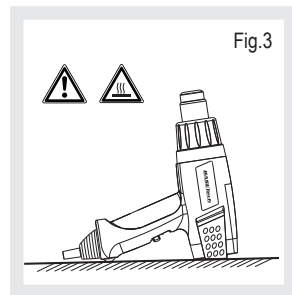

Fig.3
- As soon as the work is completed, press the On/Off switch (C) to position 0, pull out the mains plug and put the product on its stand (D) to let it cool down. (Fig. 3)